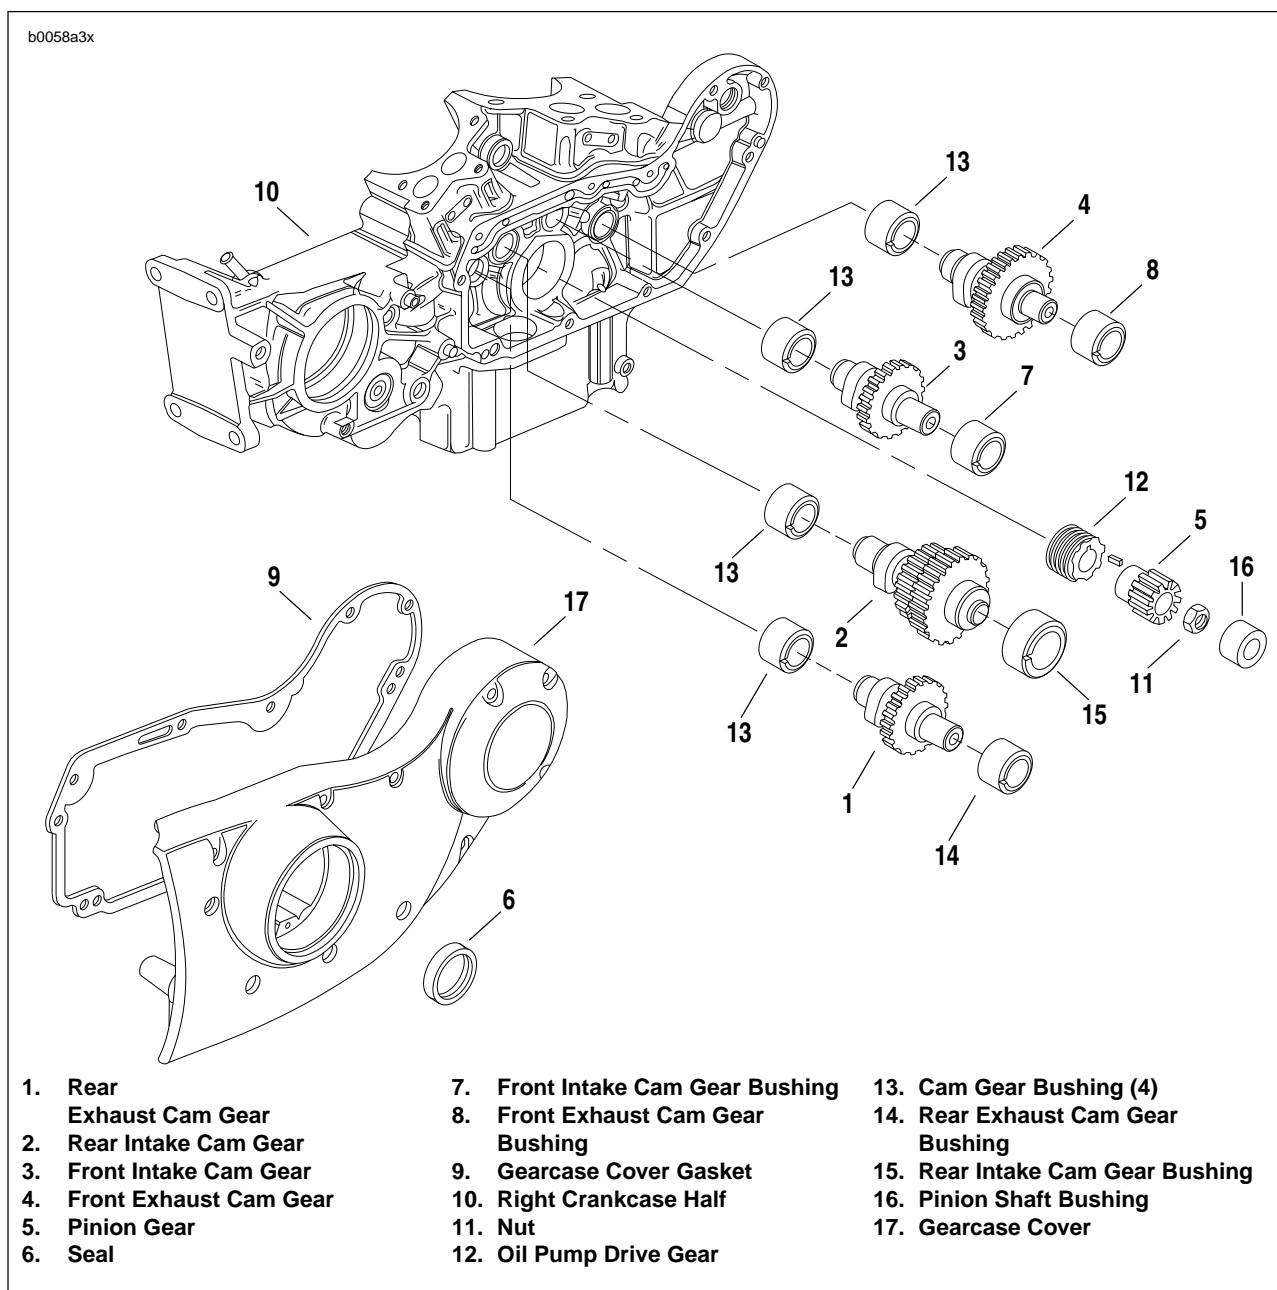

Figure 3-59. Gearcase and Valve Train Components
1. See Figure 3-59. Thoroughly clean area around gearcase cover (17) and lifters. Blow loose dirt from crankcase with compressed air.
7. Place a pan under gearcase to collect oil. Remove cover screws. Carefully remove gearcase cover. Discard old gasket (9).
1. See Figure 3-59. Bushings (7, 8, 13, 14, 15 and 16) are press fit in gearcase cover (17) and crankcase. Inspect each bushing against its corresponding cam gear shaft or pinion gear shaft. See Table 3-9.
1. See Figure 3-59. Using an arbor press, install each bushing (7, 8 and 14) in its gearcase cover (17) bore so that bushing shoulder contacts cover boss. Orient each bushing so the oiling slot is at the 9 o'clock position within the gearcase cover bore.
1. See Figure 3-59. Rear intake cam gear bushing (15) must be installed in its gearcase cover (17) bore using an arbor press. You will need to orient the bushing in a specific position of rotation within the cover bore, and will need to drill a lubrication hole in the bushing, according to the following procedures.
1. See Figure 3-59. Using an arbor press, install pinion shaft bushing (16) in its gearcase cover (17) so that bushing is flush with cover boss. There is no need to orient this particular bushing in any specific position of rotation within the gearcase cover bore.
1. See Figure 3-59. Bushings (7, 8 and 14) to be reamed must be installed in gearcase cover (17) as described in **BUSHING INSTALLATION**. Attach gearcase cover to right crankcase half (10), which has been disassembled from left crankcase half, securing with a minimum of three mounting screws.
2. Insert a standard 11/16 in. diameter reamer through the previously reamed cam gear bushing (13) in right crankcase half, which is in line with one of the bushings to be reamed in gearcase cover.
1. See Figure 3-59. Rear intake cam gear bushing (15) must be installed in gearcase cover (17) as described in **BUSHING INSTALLATION**.
2. Identify the previously reamed rear intake cam gear bushing (13) in right crankcase half (10), which has been disassembled from left crankcase half. Insert the shank end of REAR INTAKE CAMSHAFT BUSHING REAMER (Part No. HD-94803-67) through gearcase side of this bushing.
1. See Figure 3-59. Pinion shaft bushing (16) must be installed in gearcase cover (17) as described in **BUSHING INSTALLATION**. Attach gearcase cover to right crankcase half (10), which has been disassembled from left crankcase half, securing with a minimum of three mounting screws.